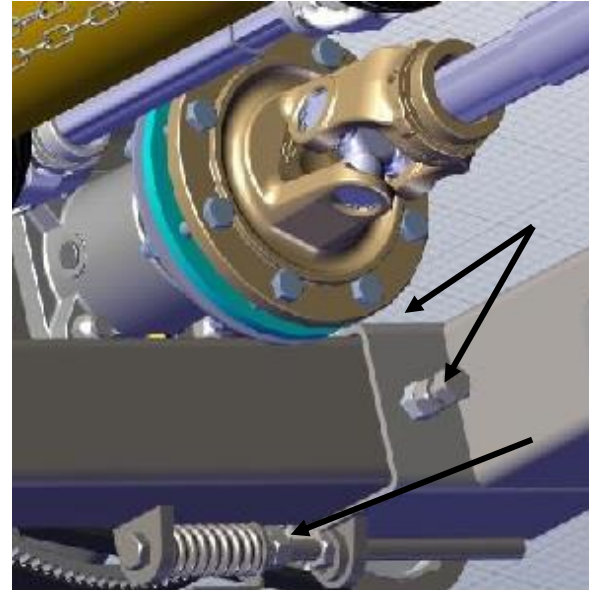

Figure 55
4. Retighten the lock nut and lock bolts when desired tension is achieved. Figure 55